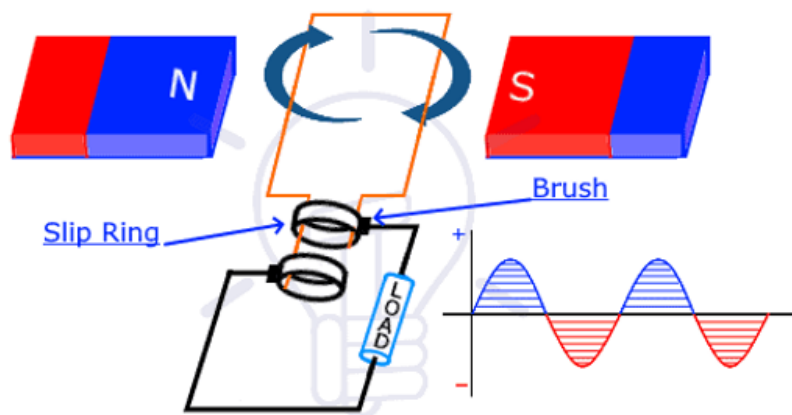

Figure 1.10: Single loop AC generator
1. **Construction of a simple AC generator:** Figure 1.10 shows the construction of a single loop AC generator.